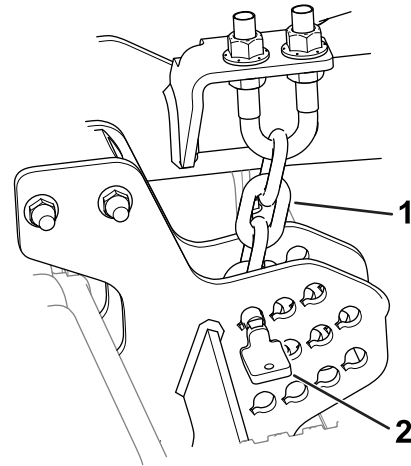

Figure 17
2. Remove the height-of-cut pins (Figure 17) from the cutting-unit side plates.